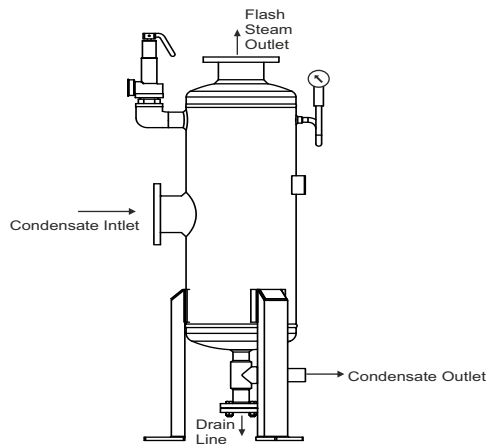

Figure 7: Flushing procedure of Forbes Marshall Flash Vessel
6.1 Flushing Procedure in the presence of a Forbes Marshall Flash Vessel : (Refer Fig. 7)